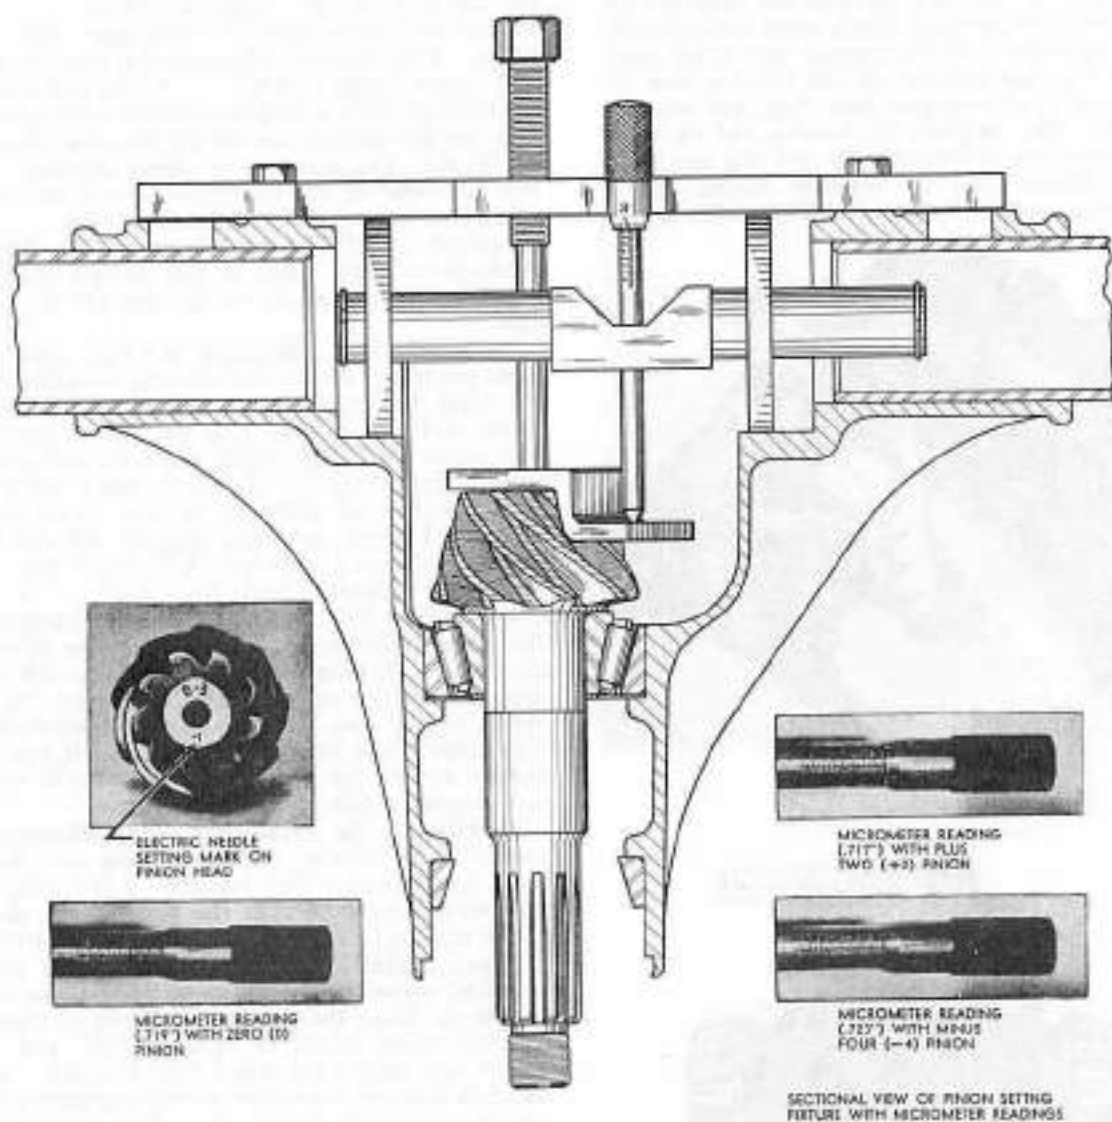

FIG. 294
The rear axle pinion should be adjusted properly before further rear axle reassembly is attempted. The marking on the ground surface at the end of the pinion indicates the correct pinion setting (see insert in Fig. 294). This marking may be a zero (0), a minus (-), or a plus (+). When properly adjusted, a pinion marked zero (0) will provide a micrometer reading of .719" (18,262 mm.), a pinion marked plus two (+2) a reading of .717" (18,2118 mm.), and a pinion marked minus four (-4) a reading of .723" (18,3652 mm.). (See Fig. 294.)